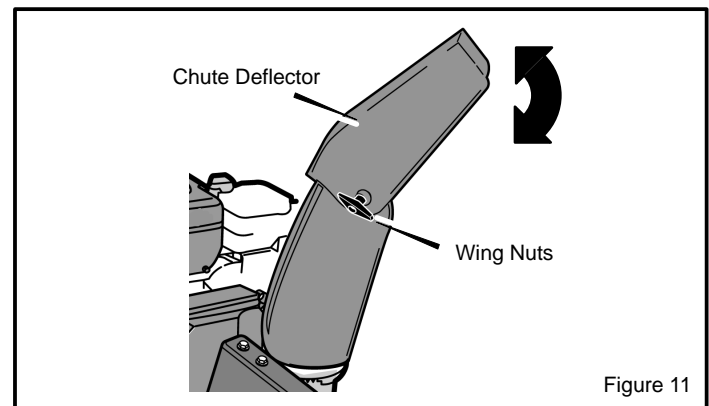

Figure 11
2. Adjust the **snow chute deflector**. Loosen the **wing nut** on the side of the **snow chute deflector**. Raise the **snow chute deflector** for more distance or lower for less distance. Tighten **wing nut**. (see Figure 11).